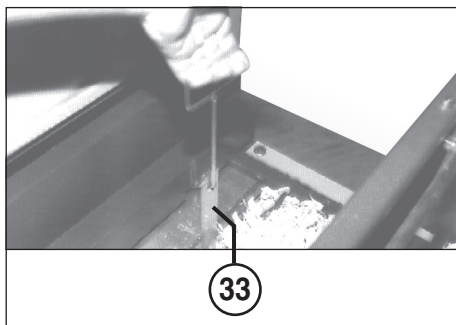

fig. 9
- A)** Tie off and eject **into** plastic sack (for small particles) (fig. 9, 10, 11, 12 and 13)
- B)** Tie off and eject **without** plastic sack (for large particles) (fig. 9, 10 and 12)
TYING OFF THE BALE (fig. 9, 10, 12, 16):
3. Pull the straps to approximately 40 cm above the baling ram with the help of the strap lifters (33) and the included strap hook (fig. 9).